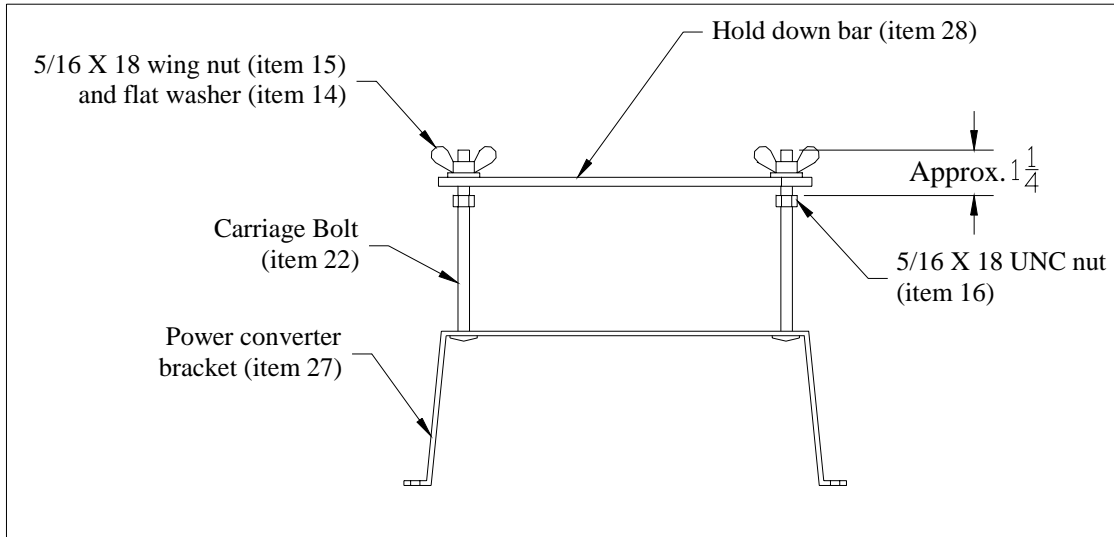

Figure 10. Assembly of power converter bracket.
1) Insert one 5 inch carriage bolt (Item 22) into each of the square holes of the power converter bracket (Item 27) and capture each carriage bolt using one 5/16 inch nut (Item 16). See Figure 10.
**CAUTION:** Position the nut according to Figure 10. This will allow the carriage to fit loosely in the bracket, reducing the chance of damage to the bolts or personal injury when the storage cabinet is removed for cleaning. **DO NOT TIGHTEN 5/16 INCH BOLT.**